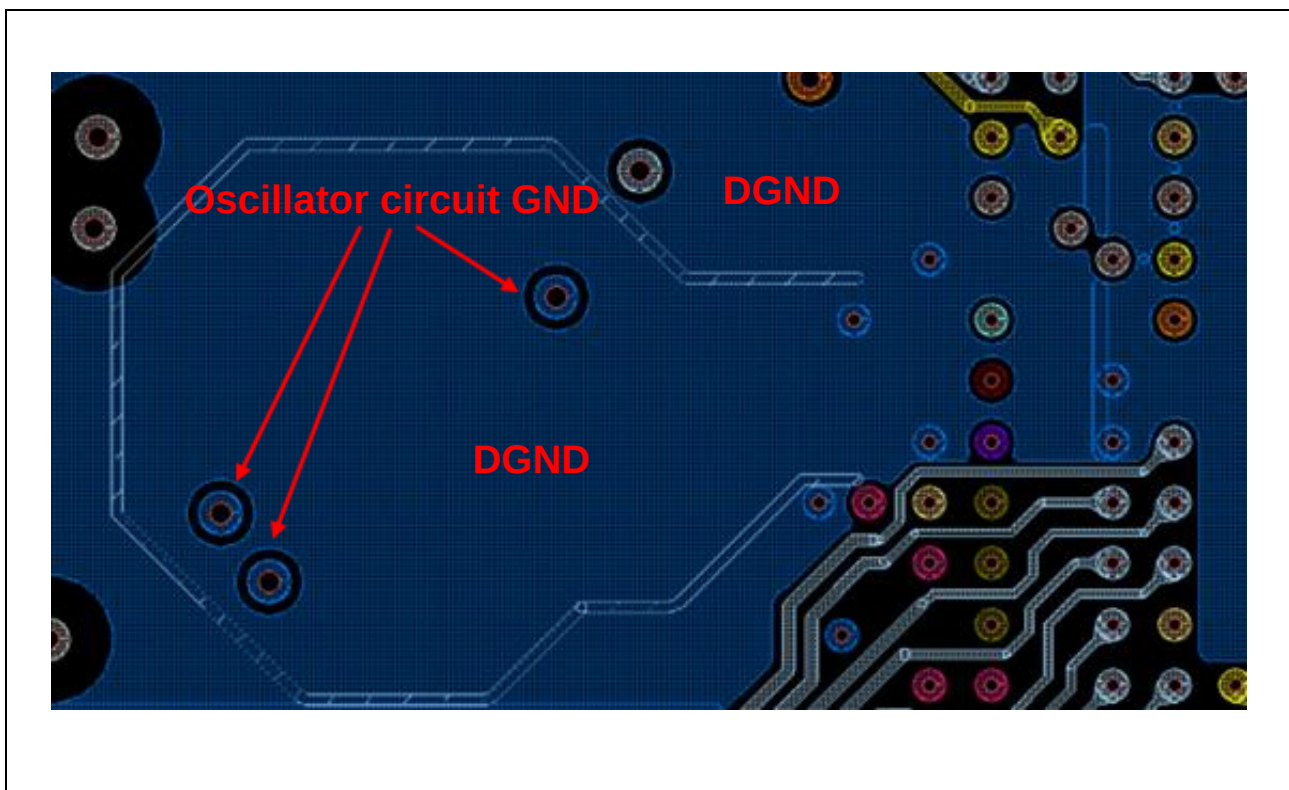

Figure 3.5 Example layout of the third layer (Layer3) of the P.C.B.
**Figure 3.5** shows an example of the third layer of the P.C.B. The third layer is DGND, but the through-holes for the oscillation circuit GND are separated so that they do not become a common GND.